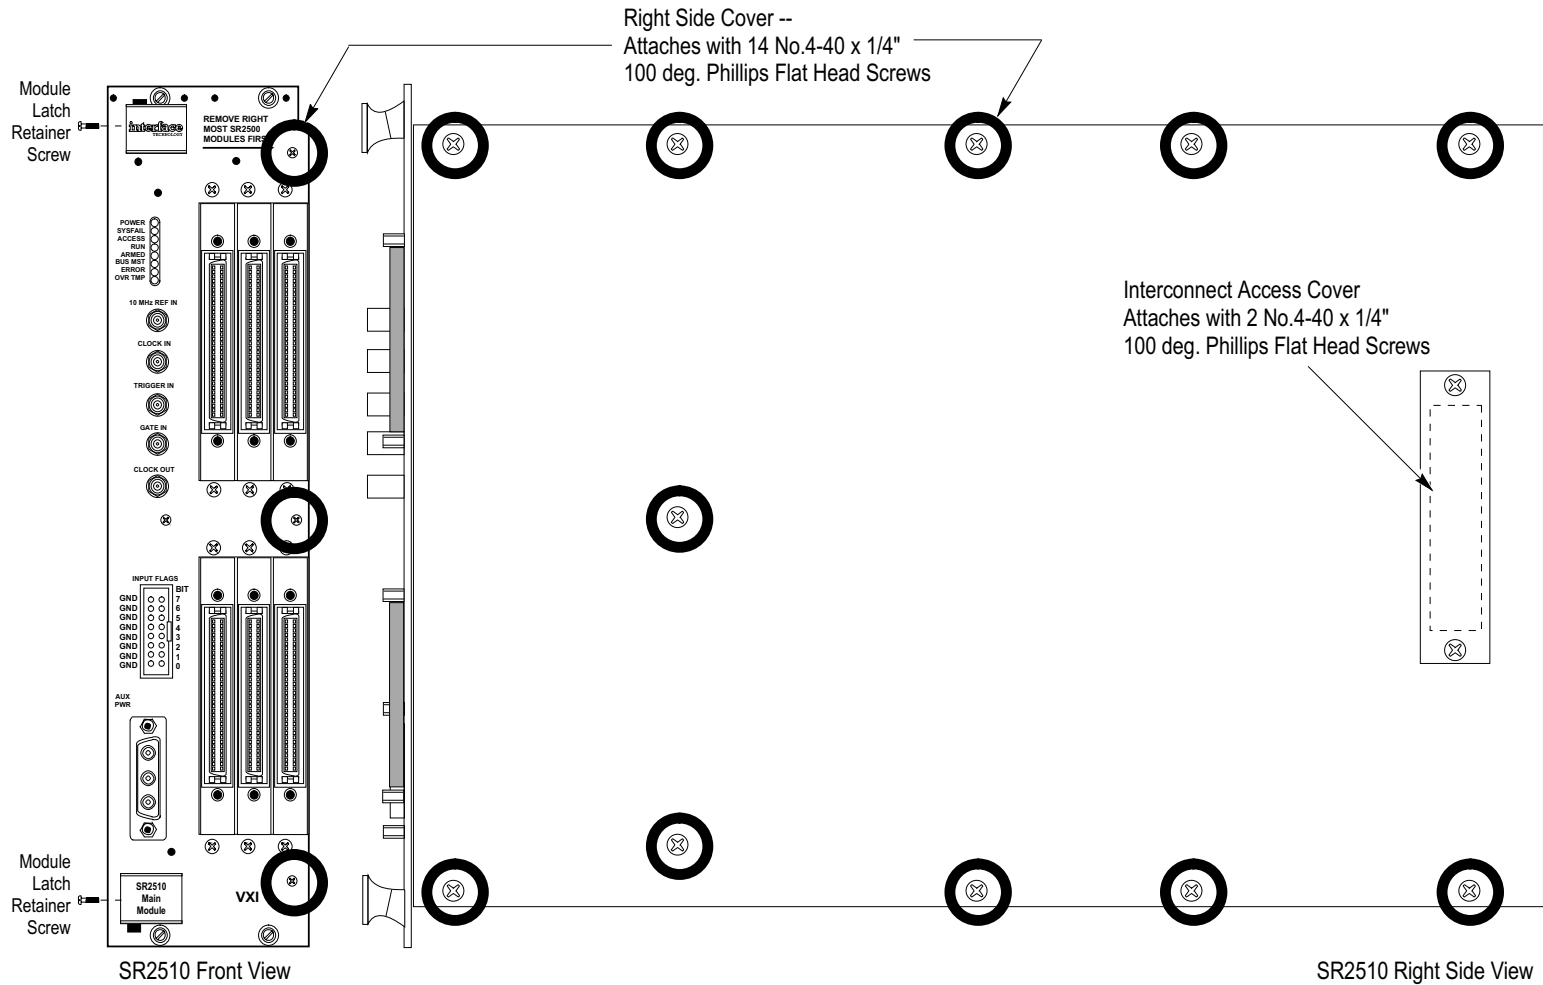
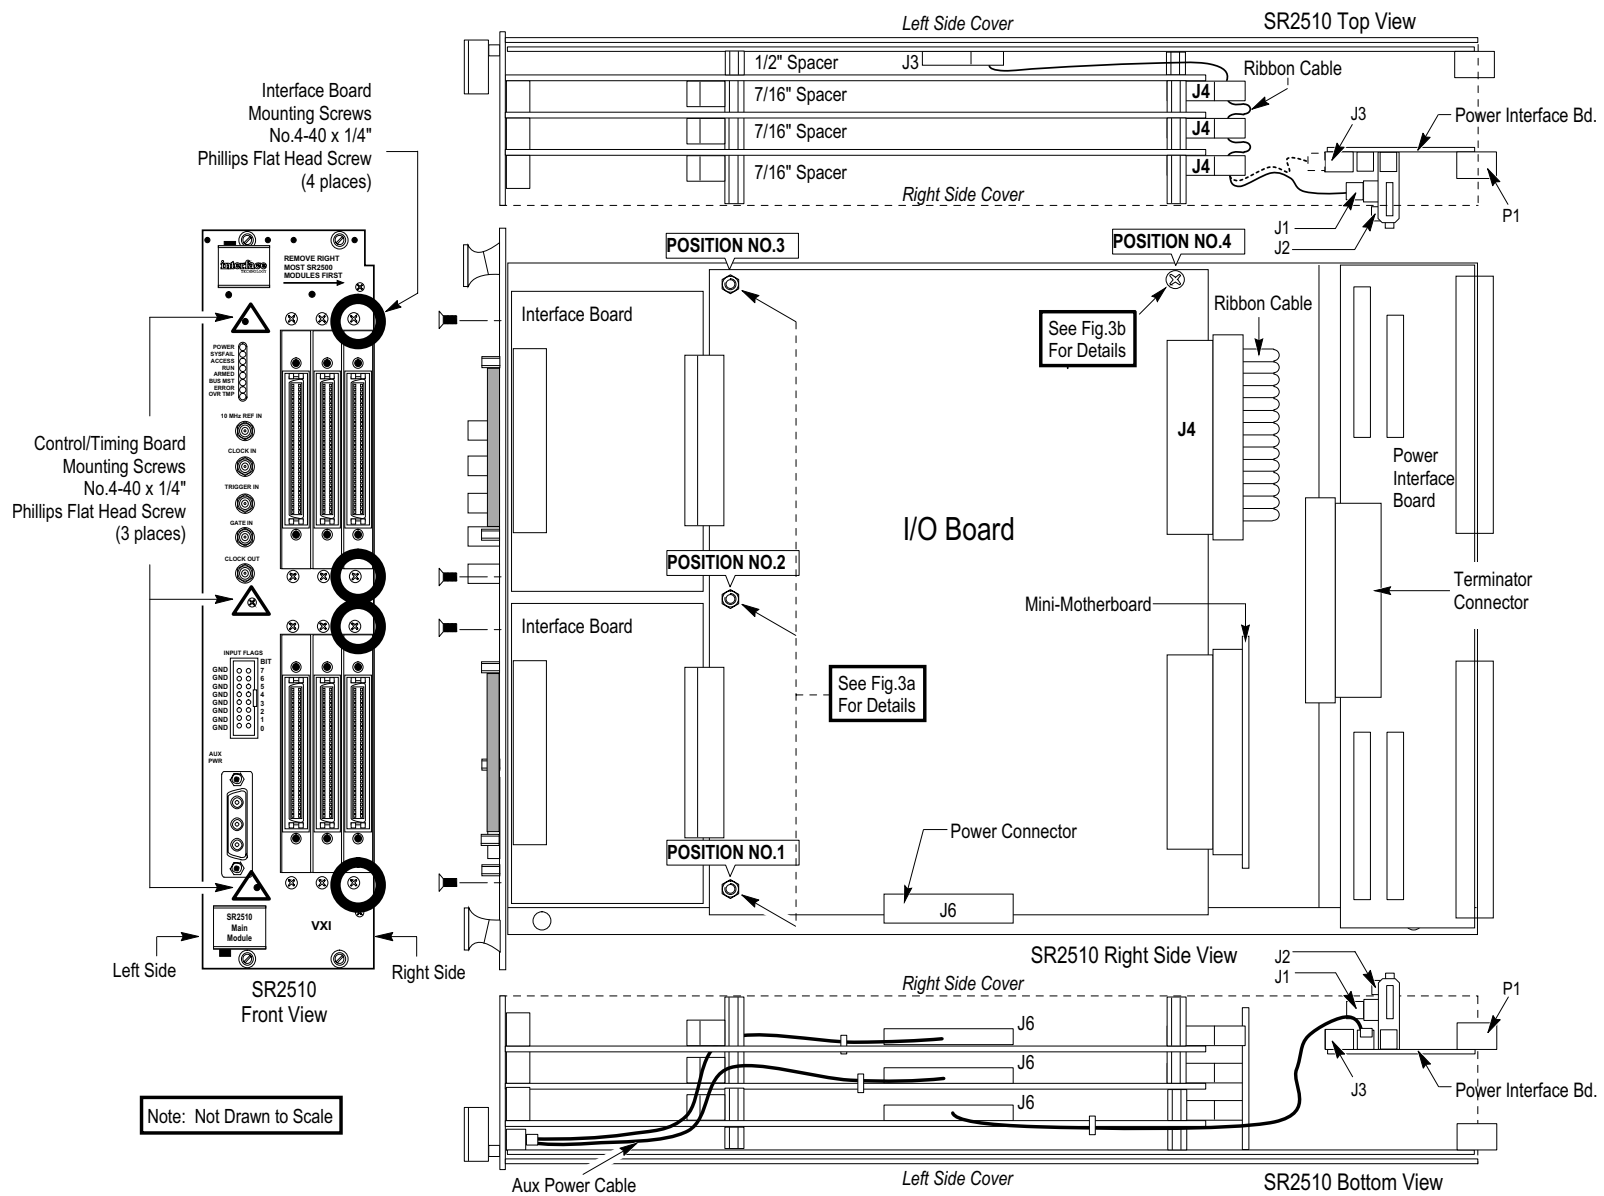

Figure 3-6. Cover Screws
Figure 3-7. I/O Board Mounting Hardware.
3. Place the module on a clean workbench, orient the module to gain access to the right side cover, see Fig 3-6.
4. Remove the 14 #4-40 x .14" Phillips flat head screws securing the cover to the module; 11 screws are located on the side of the module and three more screws are located on the front of the module. The screws to be removed are indicated by the heavy circles in Fig 3-6.
6. Remove the 2 cover plates from the front of the module for the I/O Board to be installed ... i.e., cover plates for I/O Board 2 or cover plates for I/O Board 3 are secured to the front panel by four No.4-40 x 1/4" Phillips flat head screws, see Fig 3-7 (note: in Fig 3-7, these screws are shown, blown away from the module, directly to the left of the two Interface Boards).
7. See Fig 3-7 and Fig 3-8. Remove the three spacer stacks at positions 1, 2, and 3, each consisting of two 1/2" and one 7/16" hex spacers (see Fig. 3-8a1). Also remove the No.4-40 x 1/4" Phillips pan head screw, split lock washer and nylon washer at position 4 of the I/O Board (see Fig 3-7 and Fig 3-8b1).
8. See Fig 3-7. Loosen, but do not remove, the three No.4-40 x 1/4" Phillips flat head mounting screws securing the Control / Timing Board to the module front panel. (note: screws indicated by black triangles in Fig 3-7). Also loosen, but do not remove, the two small slotted head retainer screws securing the module latches to the module, see Fig 3-6. The front panel should now swing out slightly, away from the module, to allow access to install the I/O Board.
9. See Fig 3-7. Carefully place the new Expansion I/O Board, with the Interface Board(s) attached, in position inside the module.
10. See Fig 3-7. Connect the ribbon cable to J2; connect the mini-motherboard connector, and attach the power connector at J6 of the newly installed I/O Board.
11. See Fig 3-7 and Fig 3-8a2. Install the three spacer stacks at positions 1, 2, and 3 each consisting of one 1/2" and one 7/16" hex spacers (see Fig 3-8a2). Also install a 7/16" hex spacer and the No.4-40 x 1/4" Phillips pan head screw, split lock washer and nylon washer at position 4 of the I/O Board (see Fig 3-7 and Fig 3-8b2).
12. See Fig 3-7. Install the four No.4-40 x 1/4" flat head Phillips screws securing the Interface Boards of the new I/O Board to the front panel
14. Reinstall the module cover. Reinstall and tighten the 14 mounting screws securing the cover to the module, see Fig 3-6.
Note when installing I/O Boards that the power supplied to connector J6 of I/O Board No.1 is taken from the Power Interface Board (see lower part of Fig 3-7), while power supplied to the same connector (J6) of I/O
Also note that the ribbon cable (upper part of Fig 3-7) has a separate connector for each of the I/O Boards. Unused connectors on the ribbon cable are left unterminated.